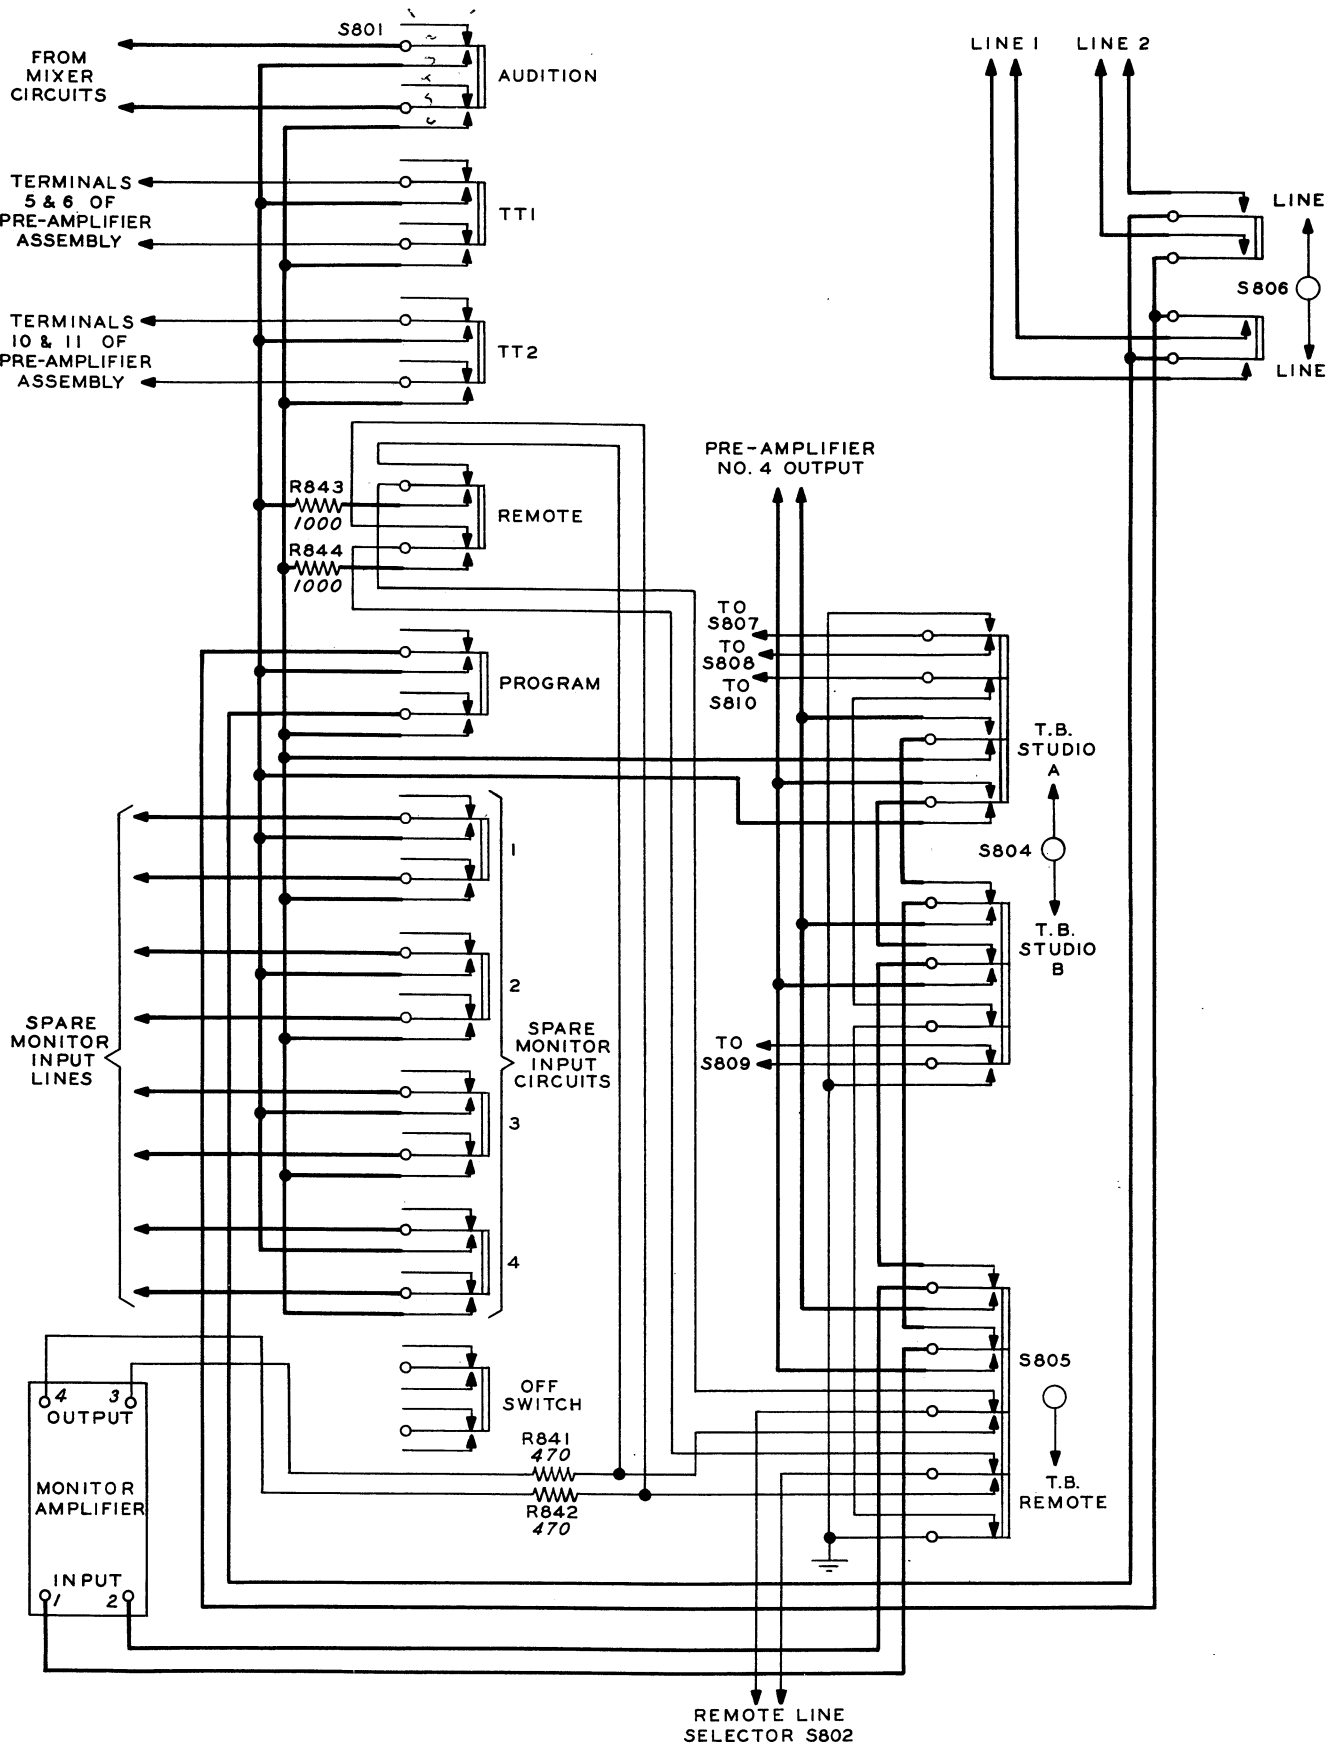

Figure 2-7 Monitor Input Circuits
(8) MONITOR INPUT CIRCUITS. - The monitor input and talkback control circuits are shown in figure 2-7. The following circuits may be selected by the push button switch S801 to be connected to the monitor amplifier input: AUDITION, TT1, TT2, REMOTE, PROGRAM, or any one of four spare monitor input lines. Connections are made through the talkback switches S804 and S805. The output of the control room microphone preamplifier is connected to switches S804 and S805 making it possible to use the monitor amplifier for talkback. The circuits are arranged so that talkback may be used in one studio while a program is in progress in another without interruption. The remote talkback switch S805 will connect the output of the monitor amplifier into all of the remote lines except the one in use. If it is desired to remove the cue from certain remote lines, such as network lines, connections to S805 may be changed.